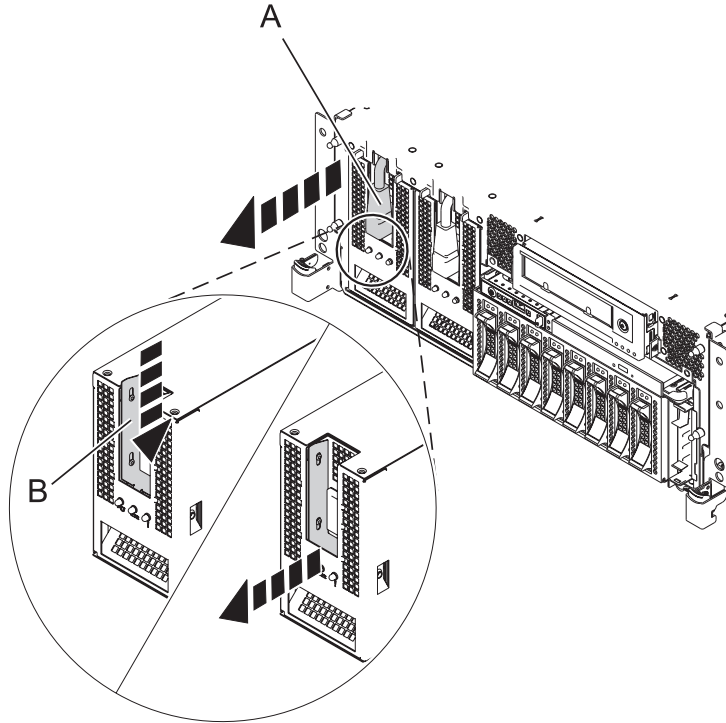

Figure 2. Removing the power supply
5. Disconnect the power cable (A) from the front of the power supply as shown in Figure 2 on page 4.
7. Press down on the locking latch (B) as shown in Figure 2 on page 4. Using the locking handle, pull the power supply out of the system.